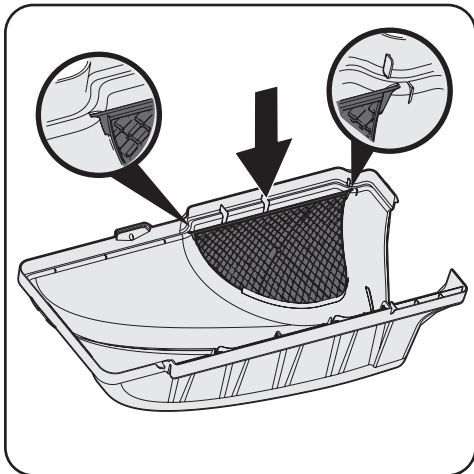

Figure 4-15
3. **If not already installed by the factory,** install the bagger screen into the bagger cover by first inserting one end into the corresponding cutout mounting hole. Make sure to feed the screen under the lip, as in Figure 4-15.